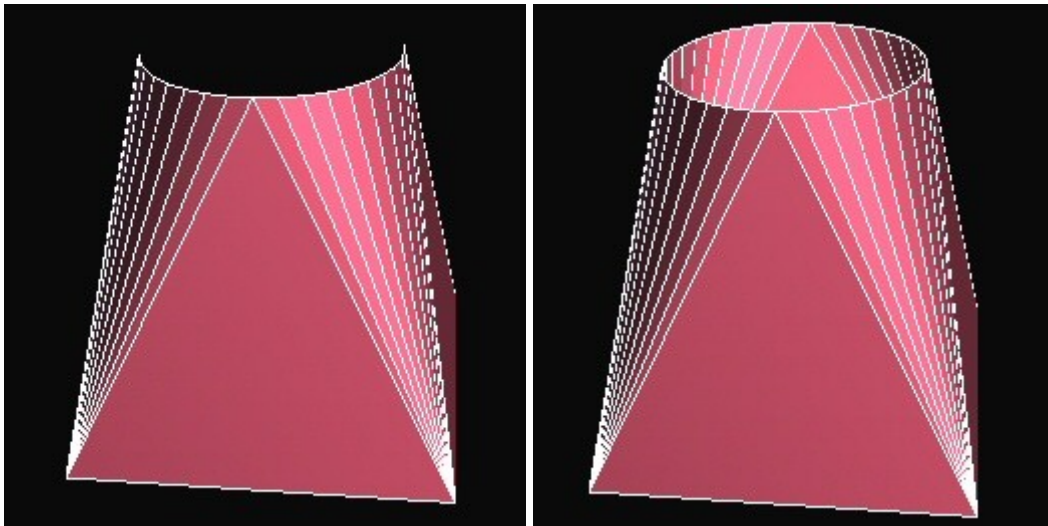

Figure 32 - XDSOFT 3D Explorer - Single sided render and then the option for double sided rendering
**Cap top and bottom** - Typically a games engine will only render one side dependent on the direction of the polygon normal so it can produce a strange effect where you can see the front but not the inside back. You'll need to use double sided rendering, double skin the structure or I've got an option to cap the top and bottom off which gives it a solid appearance, see figures 32 and 33.